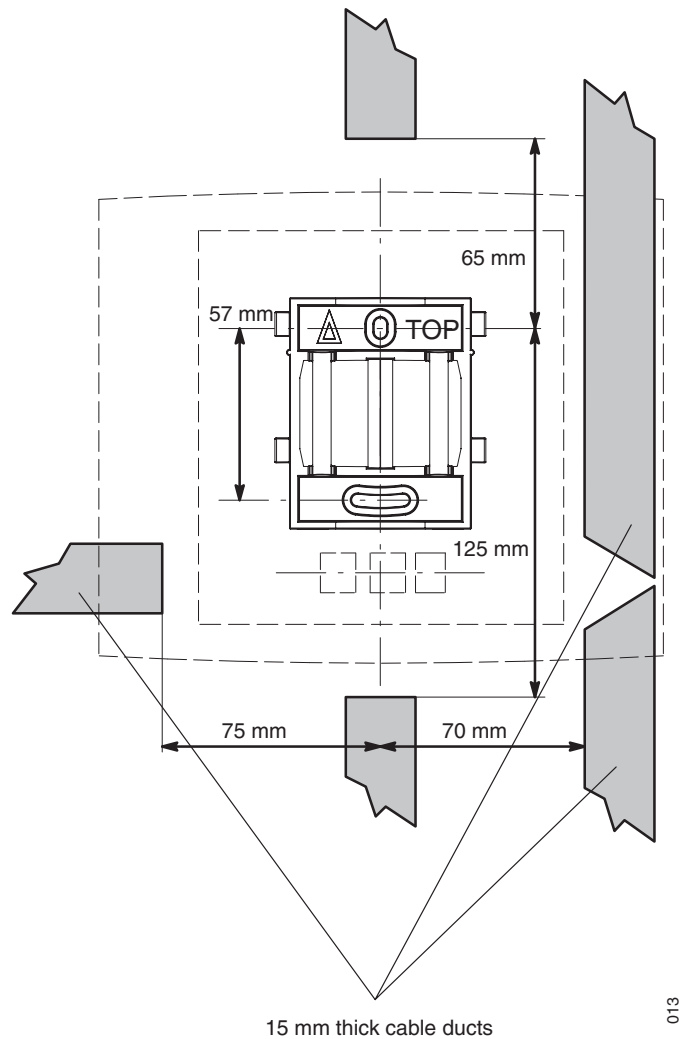

Figure 6. Minimum distances between a cable duct and the mounting bracket
- 1 Fix the cable duct to the wall in one of the positions shown in figure 6 on page 21.